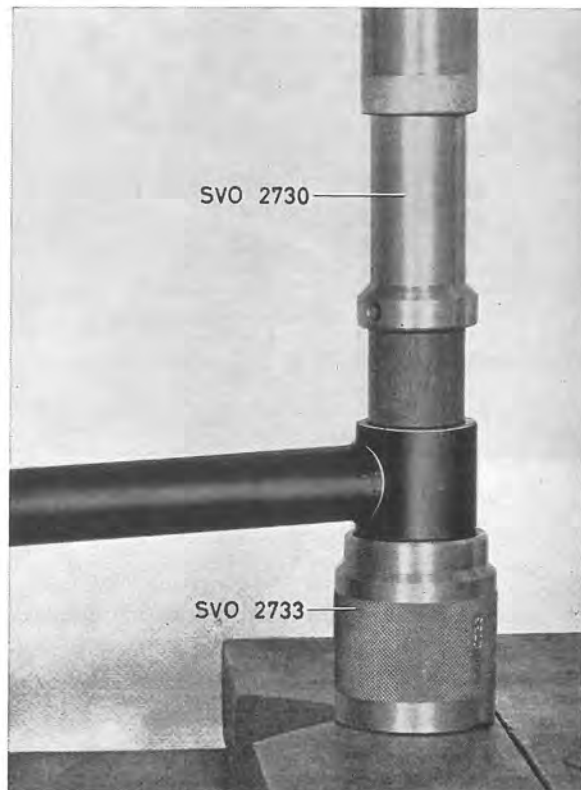
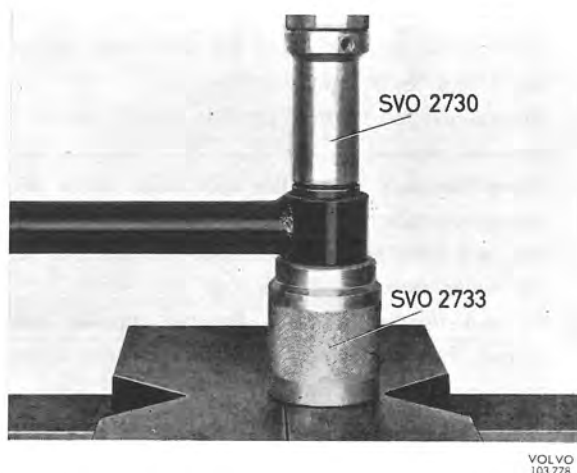

Fig. 7-12. Installing small bush, track bar
Fig. 7-11. Removing small bush, track bar
5. The large bushes are pressed out with 2731, and 2733 as a counterhold (Fig. 7-11). When pressing in the bushes, 2731 is reversed (Fig. 7-12).
6. Fit the bar with the screw to the frame bracket (12).
7. Place the other end on the rear axle bracket (6) and fit both washer and nut. Screw on the frame bracket nut.